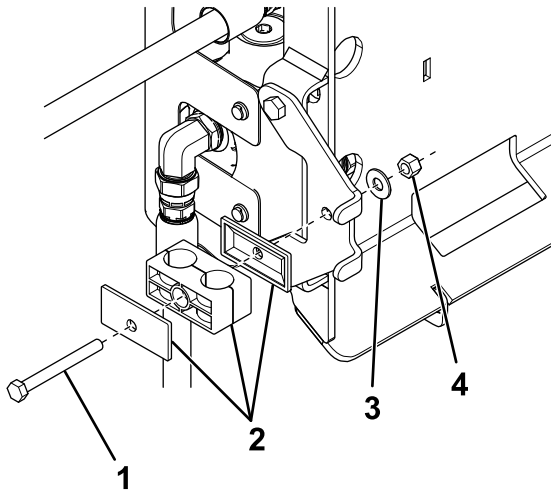

Figure 6
2. Secure the hydraulic hose clamp and clamp plates to the hose mount bracket using a bolt (5/16 inch), washer (5/16 inch), and locknut (5/16 inch) as shown in Figure 6.
5. Loosen the bolt for the hydraulic hose clamp and slide the hoses between the 2 halves (Figure 6).